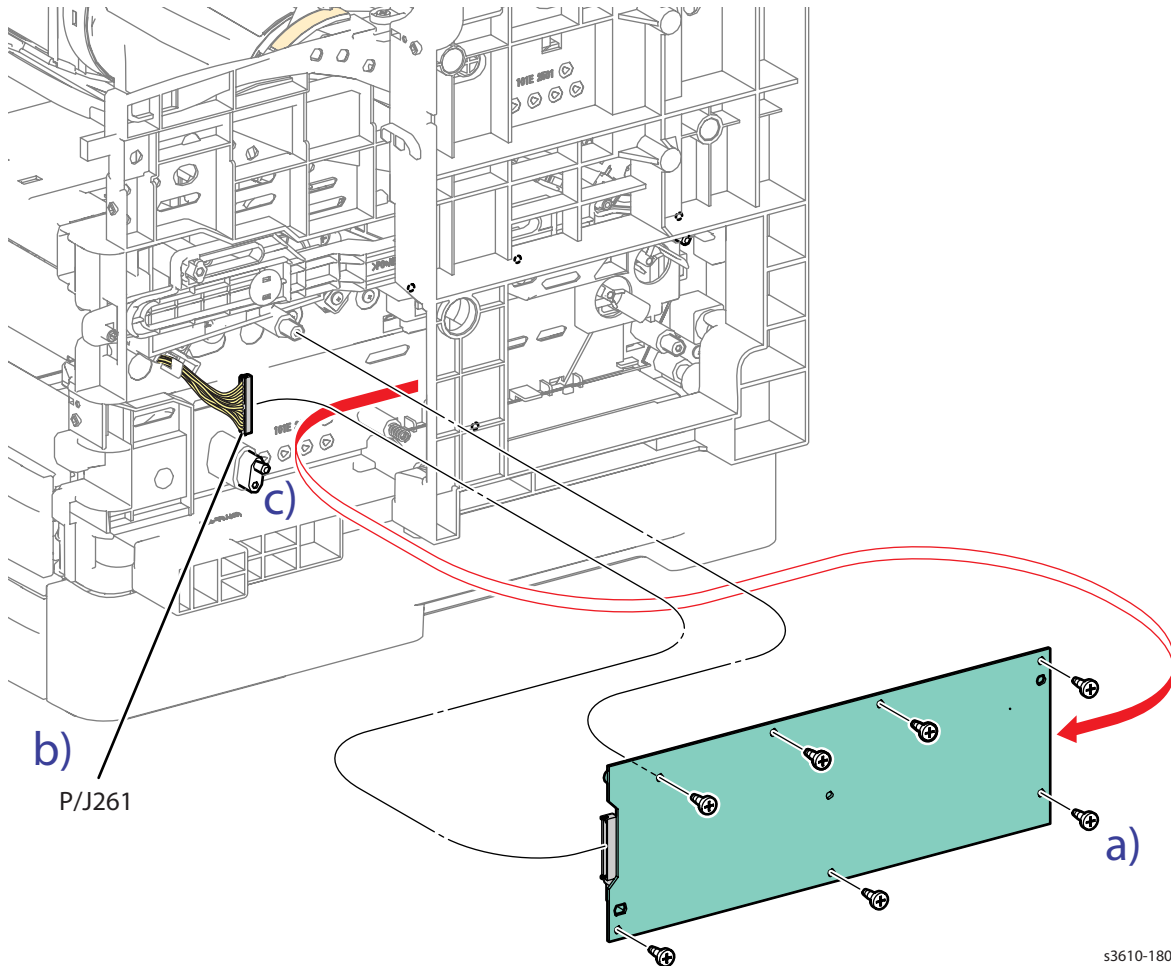

Figure 1
5. Remove the HVPS. (Figure 1)